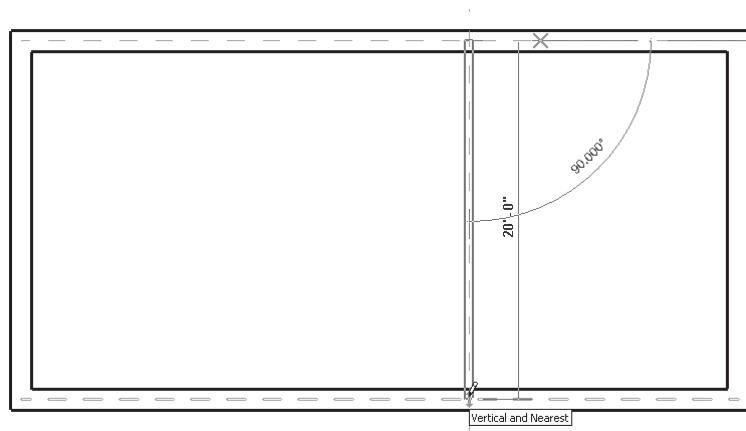

Figure 3-53 Specifying the endpoint of the first interior wall segment
3. Move the cursor vertically downward near the lower exterior wall segment. When the **Vertical and Nearest** symbol appears, as shown in Figure 3-53, click to specify the location of the endpoint of the wall segment. The first interior wall segment is sketched.